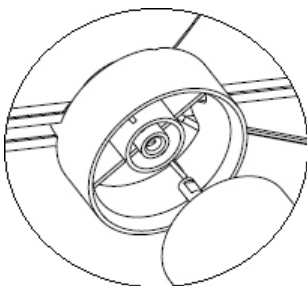

Figure 5
2. Push the wind vane into the shaft. as shown in figure 5.